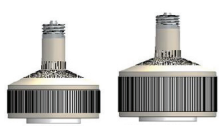

Figure 2: [Step 5] Bring Line Voltage to the Socket; Connect Hot to Black wire and Neutral to white wires connected to E39/E26 Socket.
Step 5: Connect Hot (120VAC-277VAC) to black wire; and Neutral to white wire connected to E39 or E26 socket [See Figure 2].